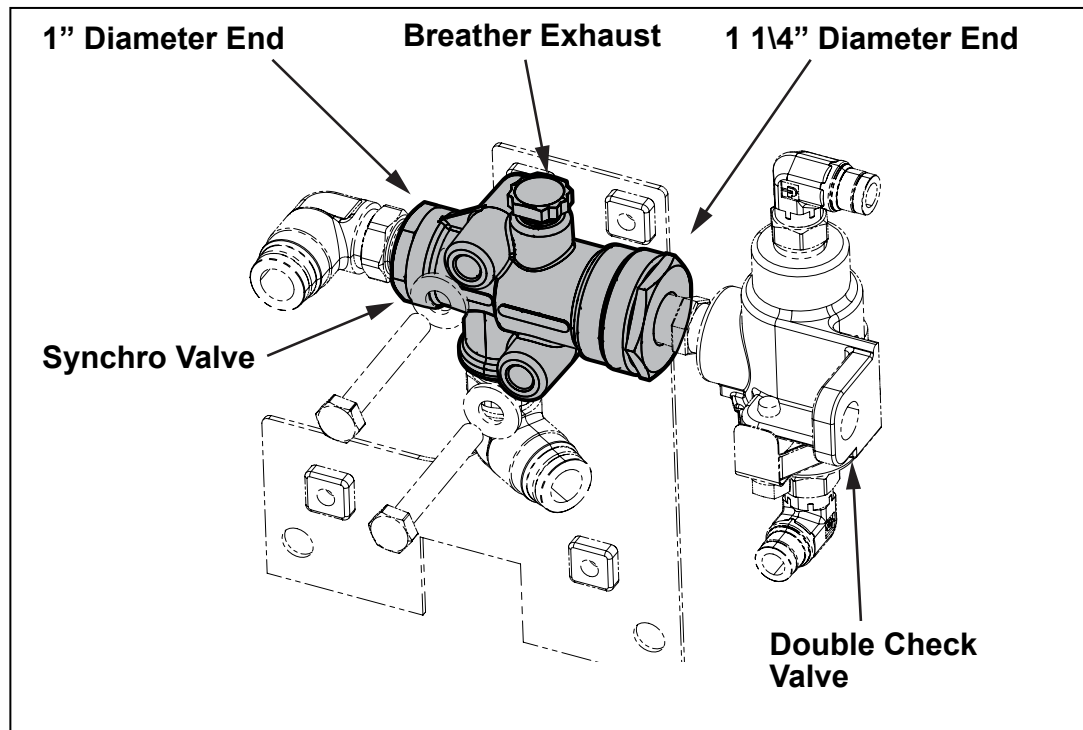

Figure 2
3. Ensure that the larger 1-1/4" diameter end of the synchro valve is to the right and connected to the double check valve (see Figure 2).
4. Ensure that the upper bolt and narrow end (1") of the synchro valve is to the left of the exhaust breather (see Figure 2).